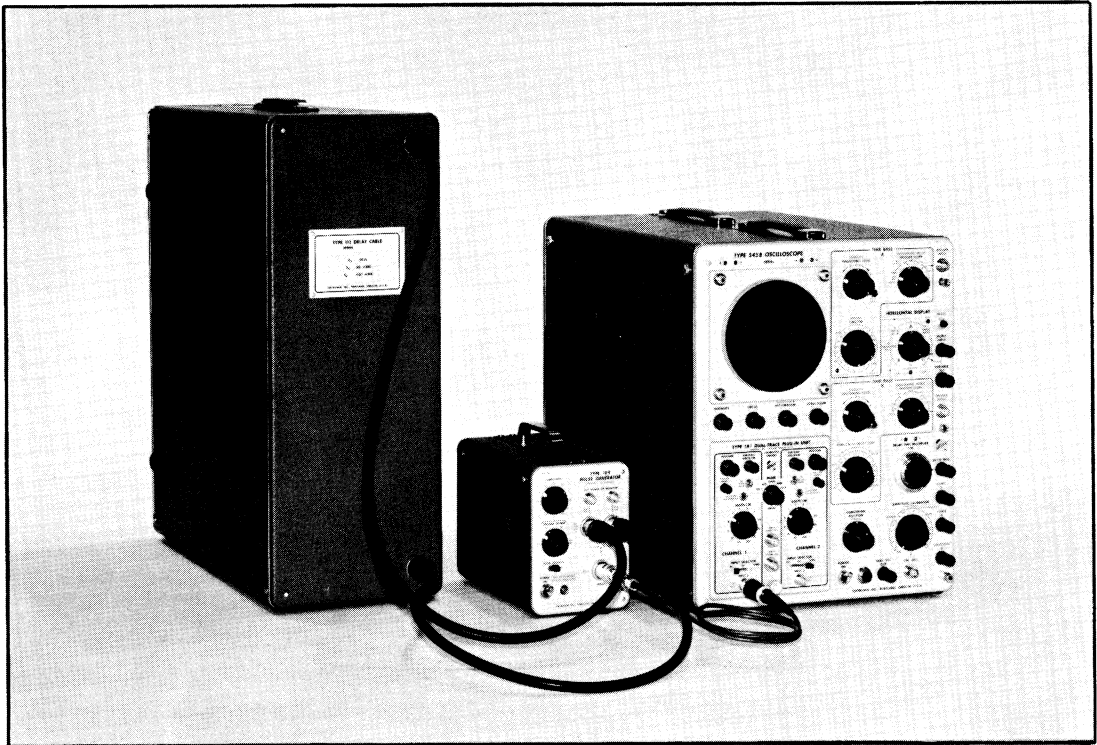

Fig. 4-1. Test setup for Transient Response check.
a. Using the two RG 8A/U cables, connect the Type 113 Delay Cable to the Type 109 Charge Line connectors. Connect the GR to BNC adapter, the 50 Ω termination, and the BNC to probe adapter to the output of the Type 109. Connect the P6012 Probe to the test oscilloscope input connector and insert the probe tip into the probe adapter. See Fig. 4-1.